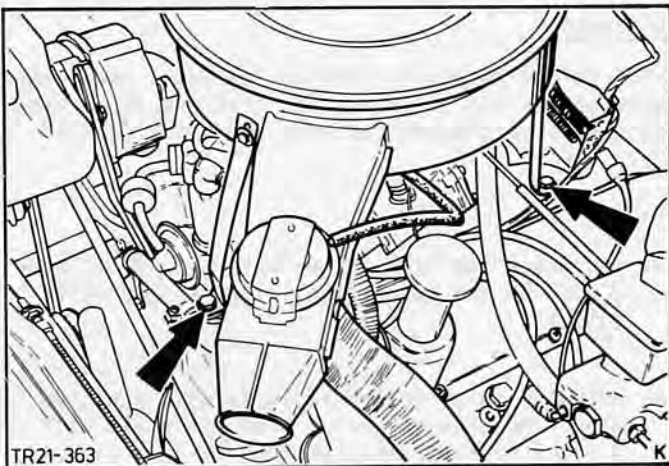

Fig.94. Remove air cleaner.
2. Detach hot air hose from preheater (1 bolt), disconnect vacuum hose and remove air cleaner with its bracket (3 bolts), Fig.94.